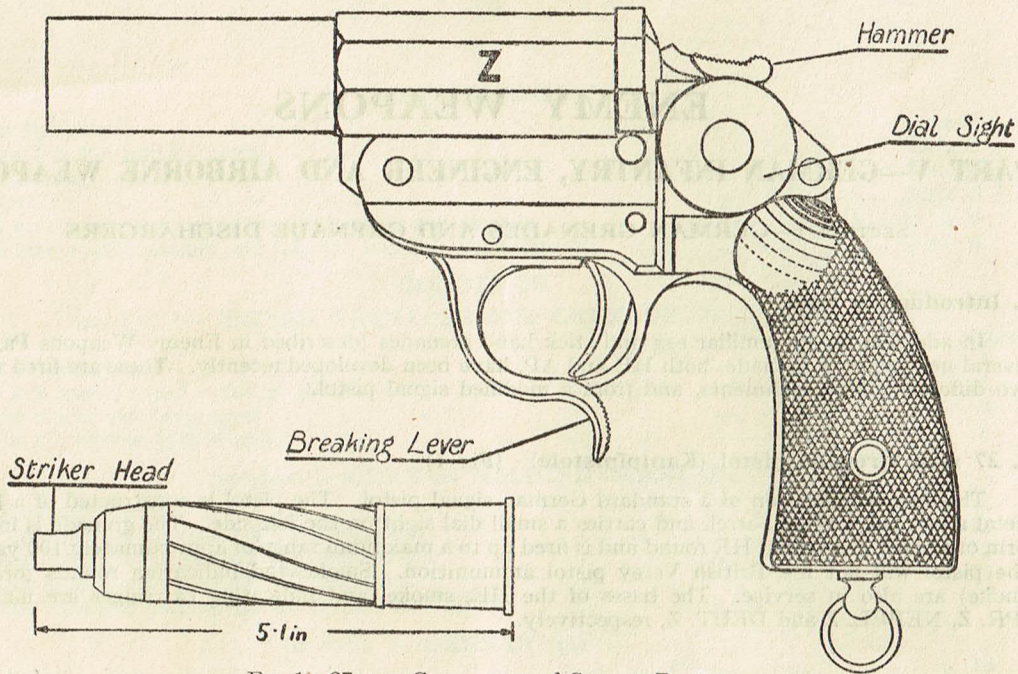

FIG 1—27 mm GRENADE and SIGNAL PISTOL
2. 27 mm Grenade pistol (Kampfpistole) (Fig 1)